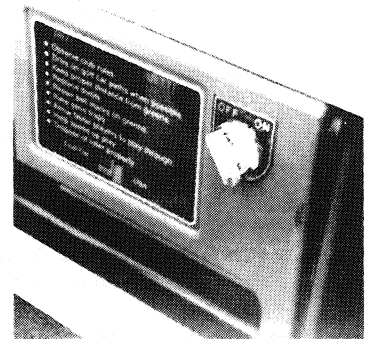

Figure 2
Key Switch - The key switch is mounted on the dash to the right of the steering column (See Figure 2). It has two (2) positions, "on" and "off" which are clearly labeled. Remove key in the "off" position only.